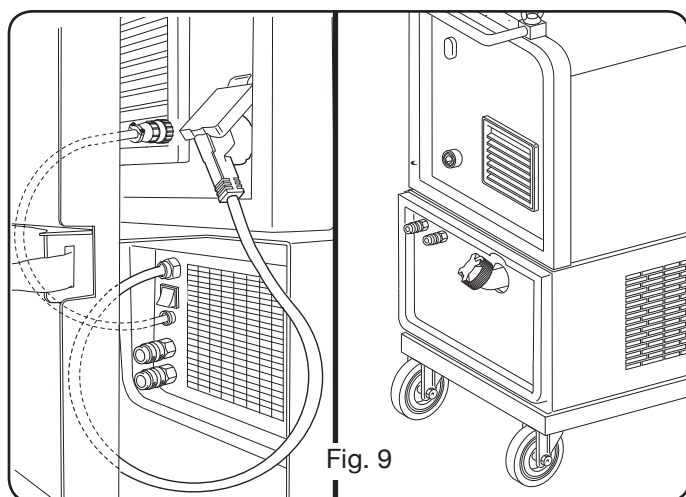

Fig. 9
3.5 ASSEMBLY OF THE COOLING UNIT (ART. 1683 - OPTIONAL) (Fig 9)